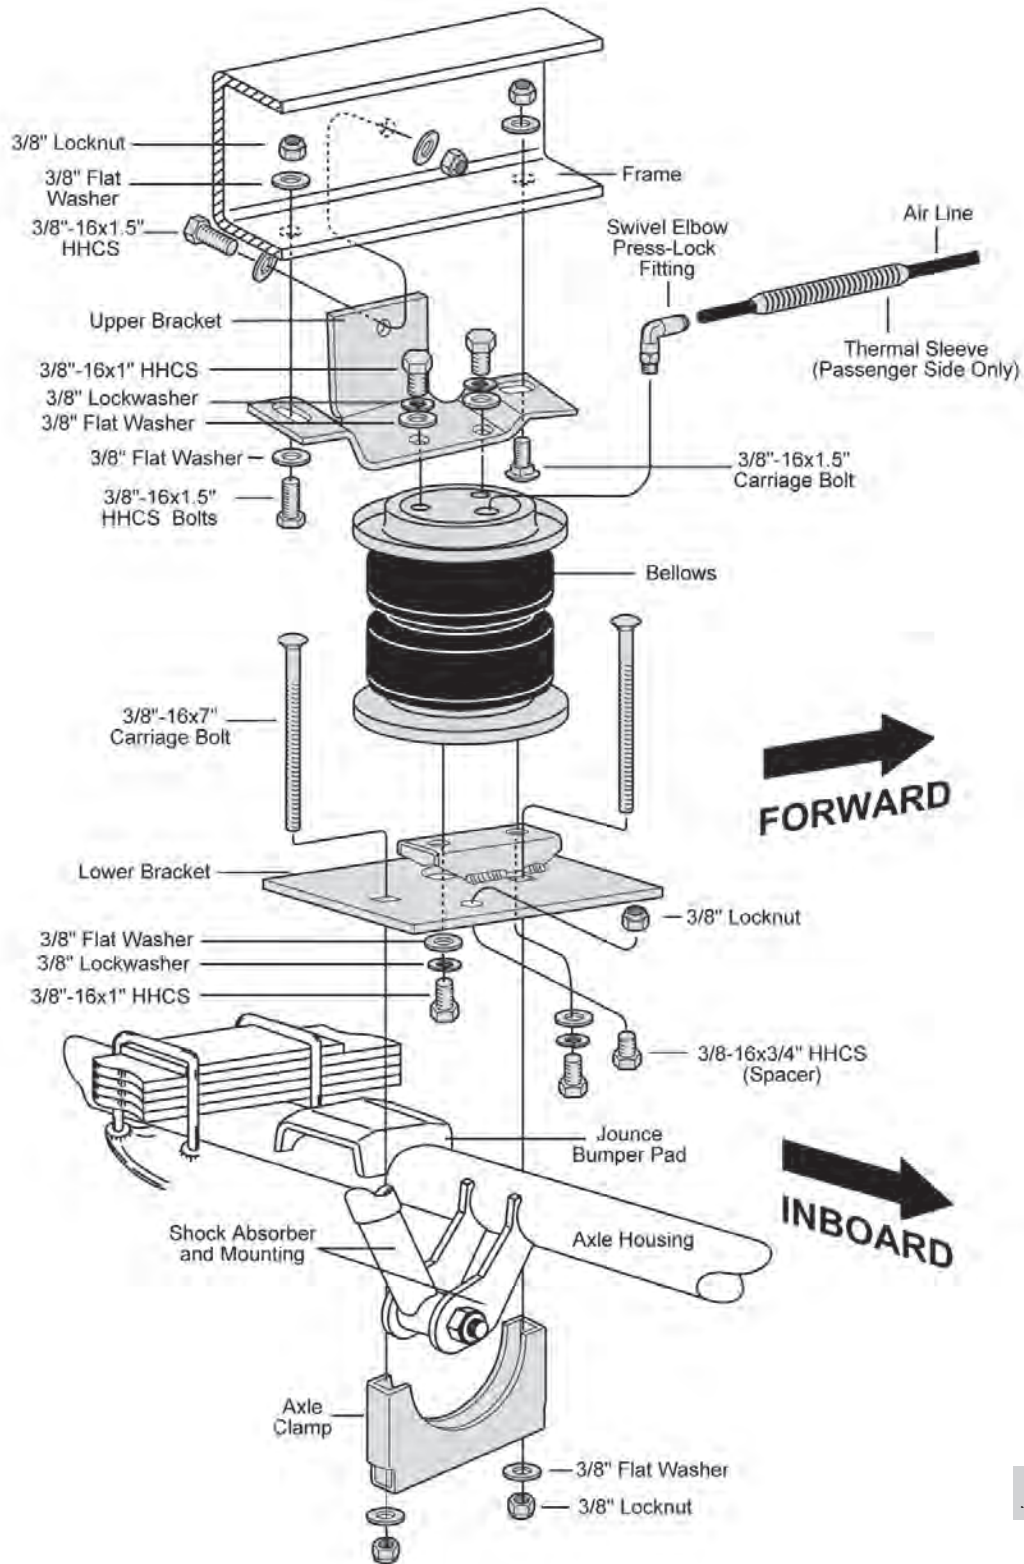
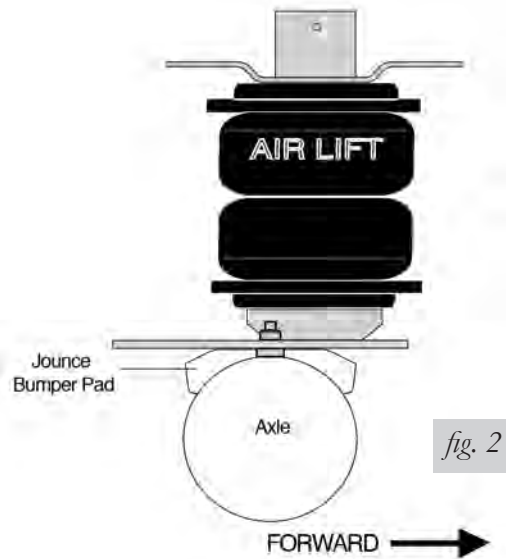

fig. 1
fig. 2
*If the vehicle is equipped with a factory sway bar, it will be necessary to set the lower axle clamp in place before lowering axle (Figure 1).*
5. A spacer is required so that the lower bracket sits level on the axle housing/jounce bumper pad. Insert 3/8-16x3/4" HHCS bolt through lower bracket and secure with 3/8" lock nut (Figure 1). The spacer should sit inboard of the jounce bumper pad (Figure 2).
6. Put the 3/8-16x7" carriage bolts into the rectangle holes in the lower bracket. Attach the bellows onto the upper and lower brackets using the round holes with the 3/8"-16x1" mounting bolts, flat washers, and lock washers. There are right and left hand units (marked). Tighten to 15-20 ft-lbs. (Figure 1).
7. Place the assembly on the axle housing, guide the carriage bolts through the axle clamp and align so that the bellows follows the natural arc of the suspension travel. Attach lower bracket to axle housing loosely using axle clamp, flat washers and locknuts (Figures 1, 4).
9. With the upper bracket in this position, and using the bracket as a template, mark and drill the 3/8" hole on the OUTBOARD side of the frame rail through the upper bracket. Install the 3/8-16x1.5" HHCS bolt, flat washer and locknut and tighten to 20 ft.lbs. Tighten the two bolts previously installed (Figure 1).
TO PREVENT AIR LINE FROM MELTING, KEEP IT AT LEAST TWELVE INCHES FROM EXHAUST SYSTEM. USE THERMAL SLEEVE ON EXHAUST SIDE (FIGURE 1).